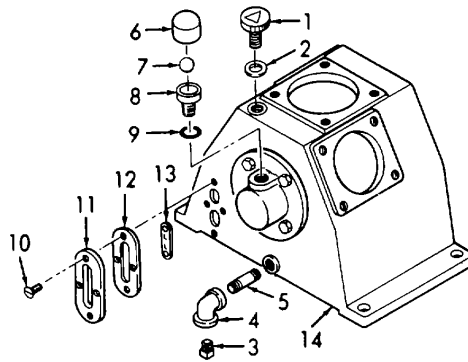

Figure 3-22. Oil Filler Cap, Breather Cap, Plug, and Sight Gage, Installation.
- (1) Inspect oil filler cap for damage.
- (2) Inspect oil sight gage for damage.
- (3) Inspect oil drain plug for damage.
- (4) Inspect oil breather cap for damage and that ball is free.
e. Installation. (Refer to Figure 3-22).